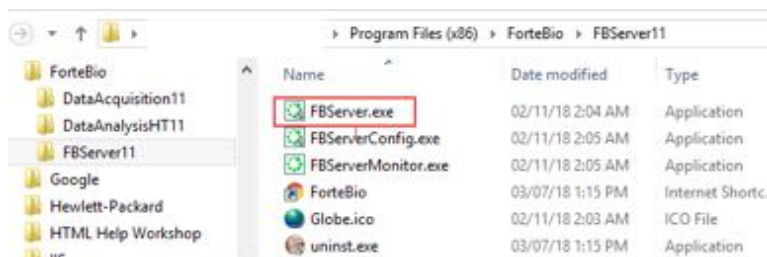

Figure 4-82: Restarting the ForteBio FBServer Module
- Double-click on the **FBServer.exe** file (Figure 4-82) in the FBServer folder from the installed location: